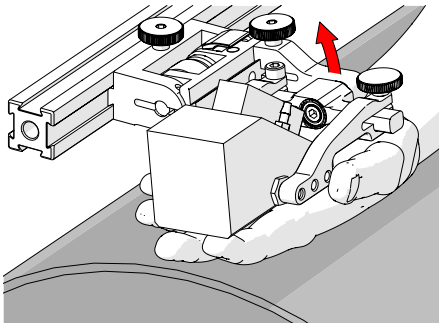

Fig. 153 - Lift to latched position
1. Ensure the probe holder is in the latched upper position (Fig. 153). If the probe holder is already latched, it will only move within the slip joint adjustment range and have no spring tension.
1. Ensure the probe holder is in the upright latched position (Fig. 153).